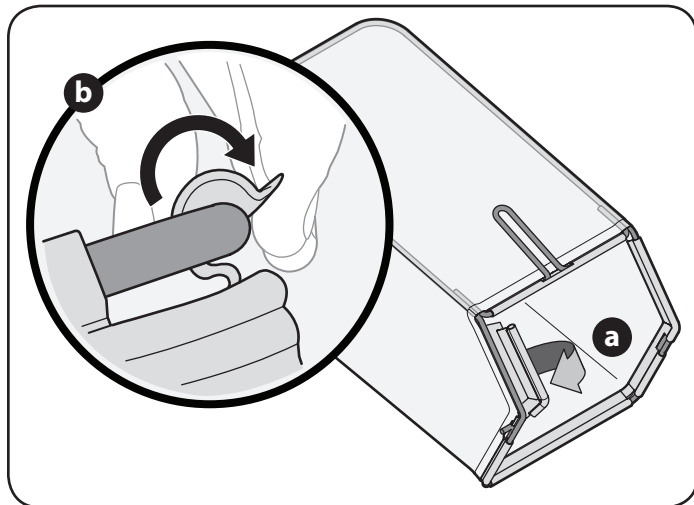

Figure 7
- b. Slip plastic channel of grass bag over the frame. See Figure 7.